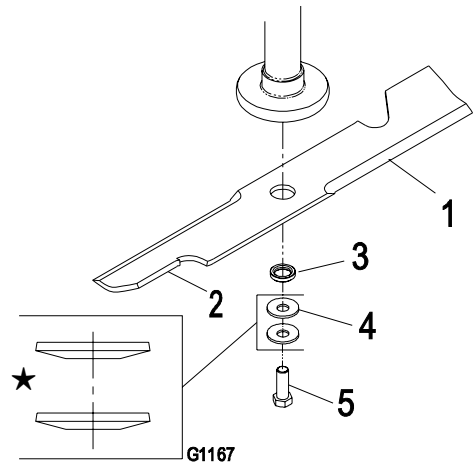

Figure 11
1. Install the blade onto the spindle shaft (Figure 11).
2. Hold the blade end using a rag or thickly-padded glove (or place a wrench on the top sheave nut). Install the bushing, two spring disk washers (cupped side toward the blade) and blade bolt (Figure 11).